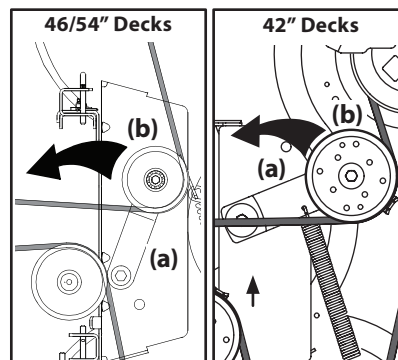

Figure 4-10
- Working from the middle of the tractor, pivot the idler bracket (a) and movable idler pulley (b) rearward just far enough to lift the belt up and over the idler pulley. See Figure 4-10.